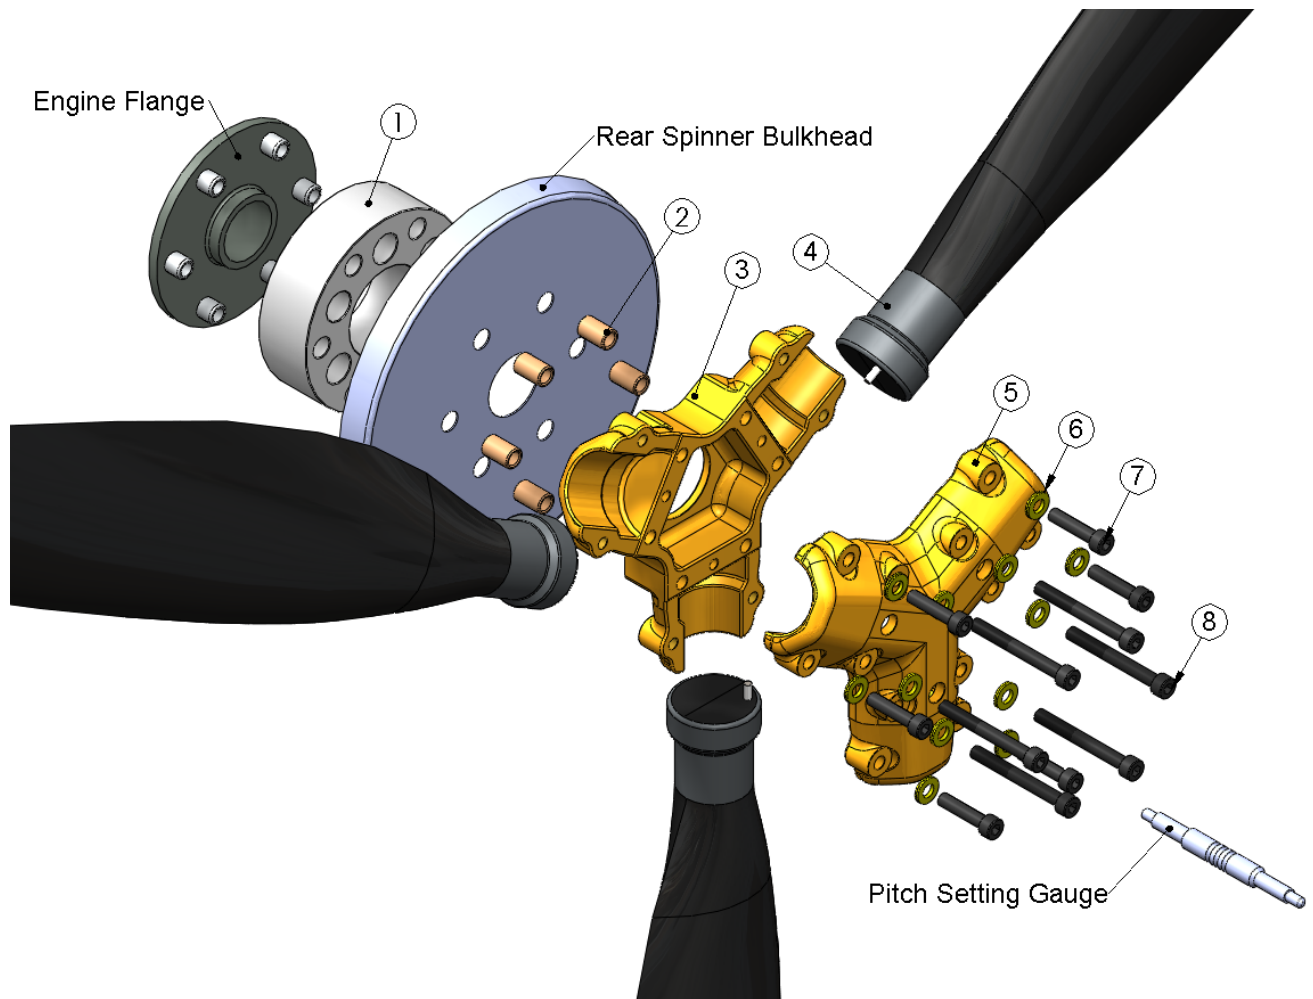

FIGURE 1. 3B0R5 PROPELLER ASSEMBLY
1. Refer to **Figure 1** for views of the two piece hub, blade, and pitch setting gage. Place the hub mount half flat on a suitable work surface with the engine side down.
11. *Be certain that the aircraft magneto switch is “OFF” and that all magnetos are grounded any time the propeller is handled.* Chock the aircraft wheels to prevent movement. Clean dirt and oil residue from the engine flange. Refer to **Figure 1** for views of the spacer, two piece hub, blade and pitch setting gage.
12. Place rear spinner bulkhead (if used) and the assembled propeller, as shown in **Figure 1**, on the propeller mounting flange. (If using Sensenich non-threaded flange bushings, insert them into the engine flange from the back side, protruding into the propeller hub.) Check for proper bushing and pilot stub fit into the hub mount half. The hub must sit flush on the mounting flange.